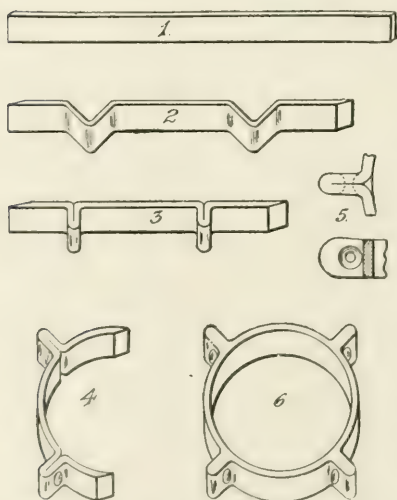

Fig. 348—Progressive steps in the forging of a masthead
and the same piece of iron, instead of the former being welded on after the ring is made. The ring is made in two halves, the iron being cut sufficiently long to make two lugs, and go half way round the masthead or ends of main or jib boom. The comparative length of the iron is given in Fig. 348 at 1. The diameter of the bands, of course, varies, and the section of iron used is in proportion. The position of the lugs is marked out, and the bar heated and bent into shape (2), the ends being shaped for welding, when the